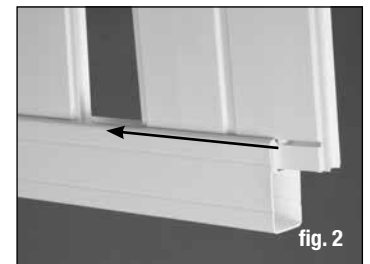

fig. 2
- Begin to insert the remaining eight pickets into the channel of the rail (fig. 2). Because the pickets have a tongue-and-groove design, be sure to face each in the same direction. Tightly align the tongue of each picket into the groove of the next as they slide into the channel. Continue to slide the pickets to the opposite side of the rail until all are inserted into the channel.